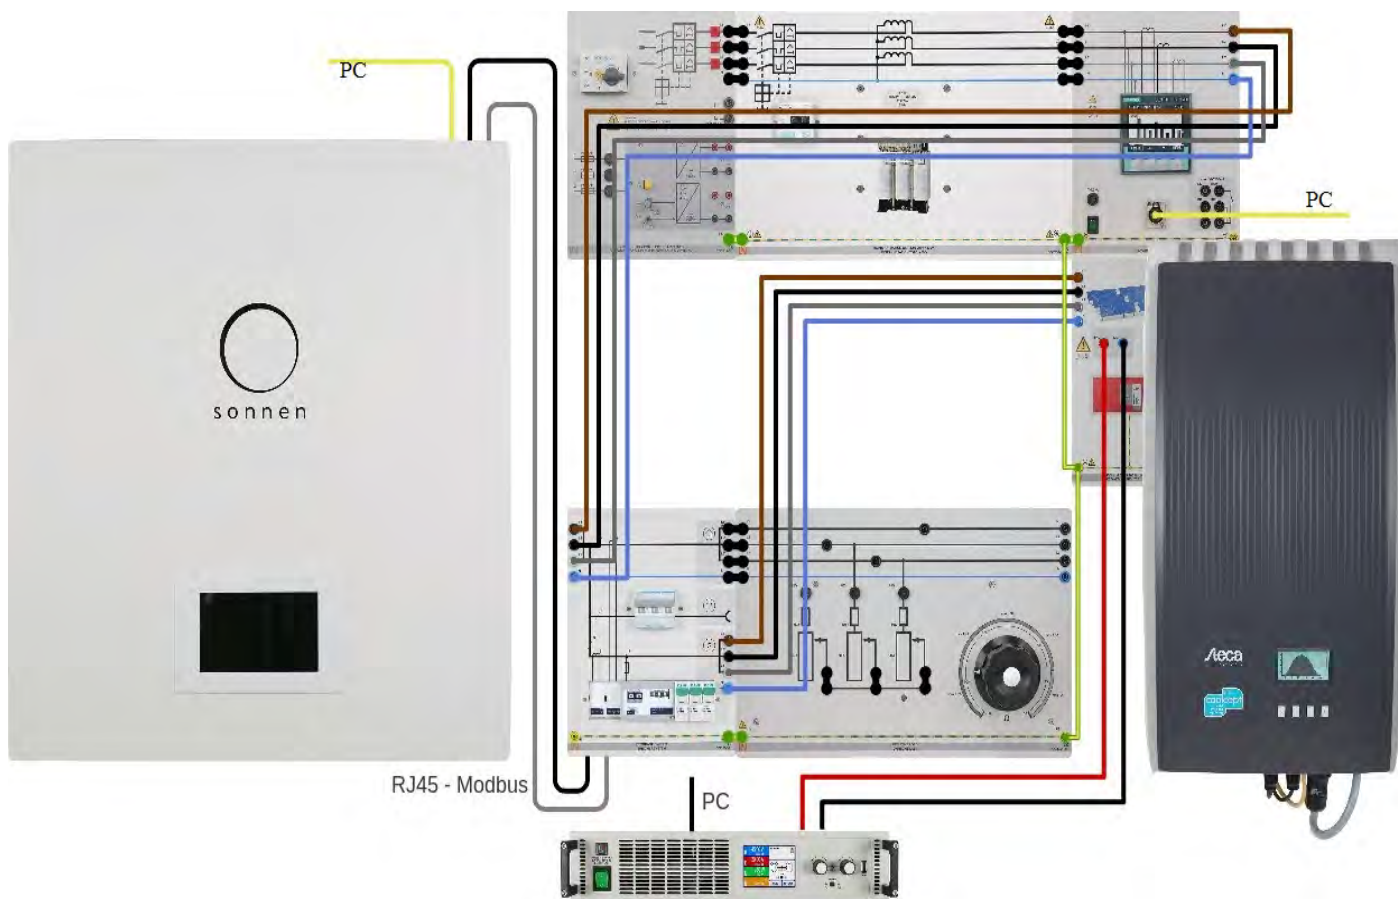
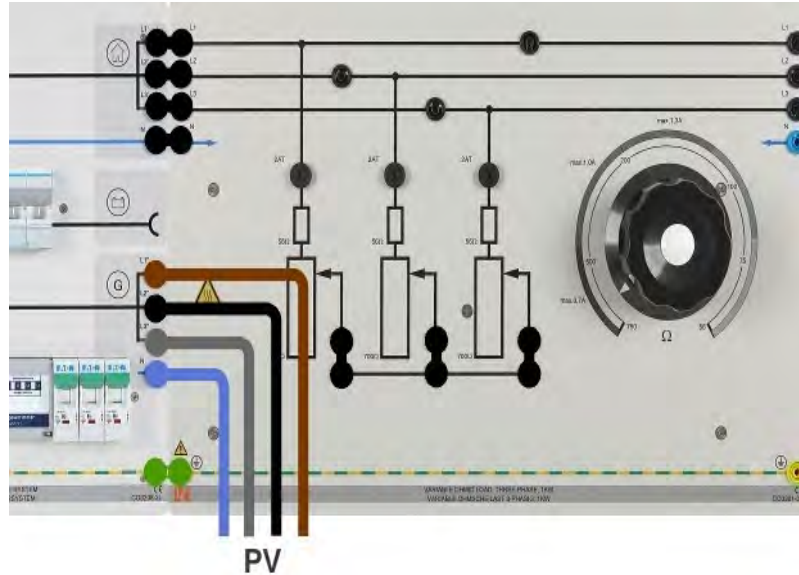

Figure 14
Figure 20
1. Wire up the circuit in accordance with the set-up and wiring diagram of Figure 14.
1. Keep the assembly and wiring plan from the Figure 14, and put the system into operation.
1. Restore the assembly and wiring plan from the Figure 14 as seen in Figure 20 below.